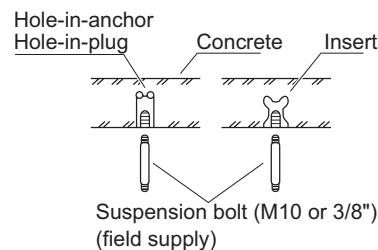

Fig. 2-99
- Insert suspension bolts as shown in the diagram. (Fig. 2-99)
- (2) Screw in the suspension bolts allowing them to protrude from the ceiling as shown in Fig. 2-99. (Cut the ceiling material, if necessary.)